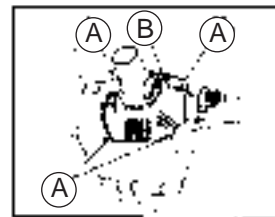

Fig. 1
*Laguna Utility Pumps 4, 5, 6 and 7:* Use a Phillips (cross headed) Screwdriver to remove four screws (A) that are attached to the motor cover (B). (Fig. 1)